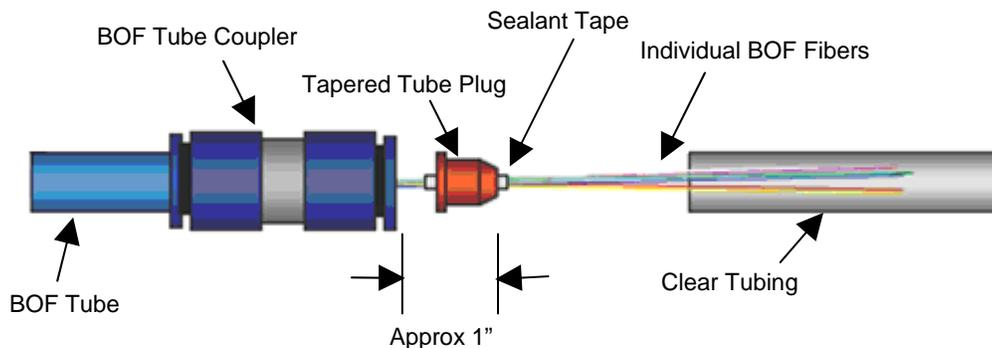

Figure 5
- b. Place the tapered tube plug around the optical fibers and sealant tape (Figure 5).